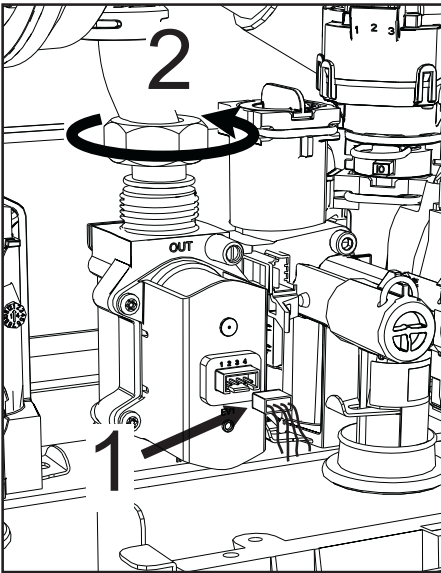

fig. 43
- Disconnect the electrical connectors "1" (fig. 43).
- Disconnect the gas supply pipe "2" (fig. 43)